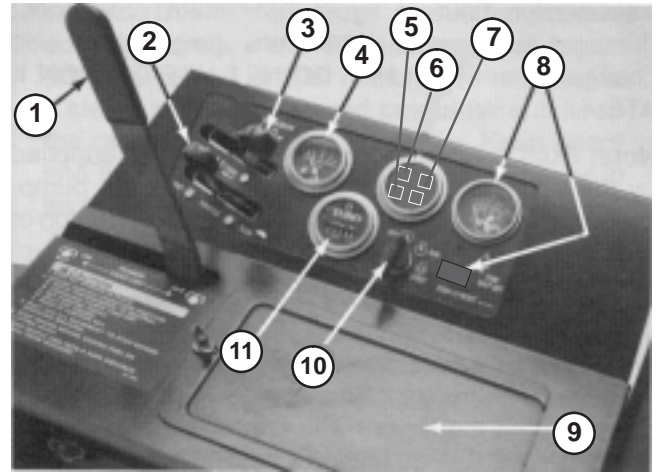

Figure 18
The PTO lever (Fig. 18) has two positions: ON (engage) and OFF (disengage). Slowly push PTO lever fully forward to ON position to start the implement or cutting unit blades. Slowly, pull lever backward to OFF position to stop implement operation. The only time PTO lever should be in the ON position is when implement or cutting unit is down in operating position.
The fuel gauge (Fig. 18) indicates quantity of fuel remaining in fuel tank.
The hour meter (Fig. 18) registers accumulated hours of engine operation.
The oil pressure warning light (Fig. 18) glows when oil pressure in engine drops below a safe level. If low oil pressure ever occurs, stop engine and determine the cause. Repair the damage before starting the engine again.
Illuminates when system charging circuit malfunctions (Fig. 18).
The light illuminates and engine shuts down when coolant reaches a excessively high temperature (Fig. 18).
The temperature gauge (Fig. 18) registers the temperature of the coolant in the cooling system. If temperature of coolant gets too high the engine will shut off automatically. When this happens, rotate ignition key to OFF. Automatic shut-off of the engine usually results from debris on front of screen or radiator, which reduces air flow. After cleaning outside of screen and radiator or repairing some other damage, press the reset button (Fig. 18) and start the engine.
The ignition switch (Fig. 18), which is used to start and stop the engine, has three position: OFF, RUN, and START. Rotate key clockwise to the START position to engage starter motor. When engine starts, release key and it will move automatically to the ON position. To shut engine off, rotate key counterclockwise to the OFF position.
The throttle (Fig. 18) is used to operate engine at various speeds. Moving throttle forward increases engine speed—FAST; backward decreases engine speed—SLOW.
To start a cold engine, close carburetor choke by moving choke control (Fig. 18) fully forward. After engine starts, regulate choke to keep engine running smoothly. As soon as possible, open the choke by pulling it backward.
2. Move throttle control (Fig. 18) to 1/4–1/3 open position.
3. To start engine, move choke lever (Fig. 18) fully forward.
4. Insert key into ignition switch (Fig. 18) and rotate it clockwise to START position. Hold key in START position for a few seconds to energize ignition system. Release key immediately when engine starts and regulate choke to keep engine running smoothly.